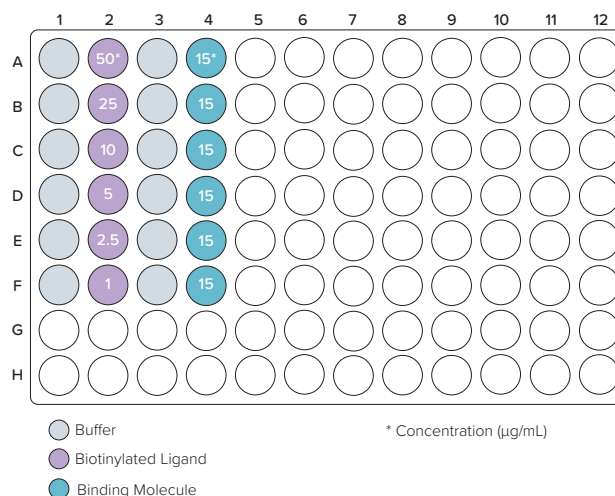

Figure 2: Sample plate layout of a kinetic assay to screen biotinylated ligand concentrations for immobilization onto Streptavidin biosensors.
- 1 Prepare several dilutions of the biotinylated ligand in immobilization buffer (>225 µL per biosensor). For example, Figure 2 shows an assay including six concentrations of biotinylated ligand from 1–50 µg/mL.
- 2 (Optional) Prepare a solution of the binding molecule in immobilization buffer (>225 µL per biosensor) at a concentration above the expected K_D . For example, Figure 2 specifies a 15 µg/mL solution of binding molecule.
- 3 Prepare a sample plate according to the plate map in Figure 2 (200 µL per well).
Figure 3: Example binding chart of a screening assay to optimize immobilization of a biotinylated ligand to Streptavidin biosensors. The assay was run using the plate setup shown in Figure 2 and the assay protocol in Table 1.